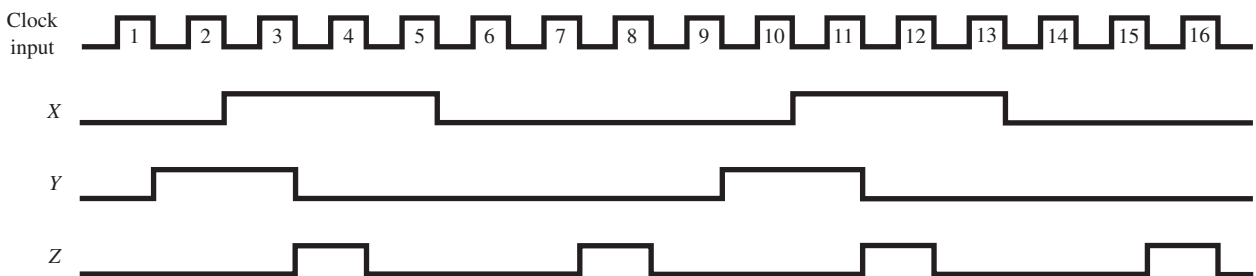

Figure P15
15. Using the Johnson shift counter output waveforms in Figure 7, add some logic gates to produce the waveforms at X, Y, and Z shown in Figure P15.